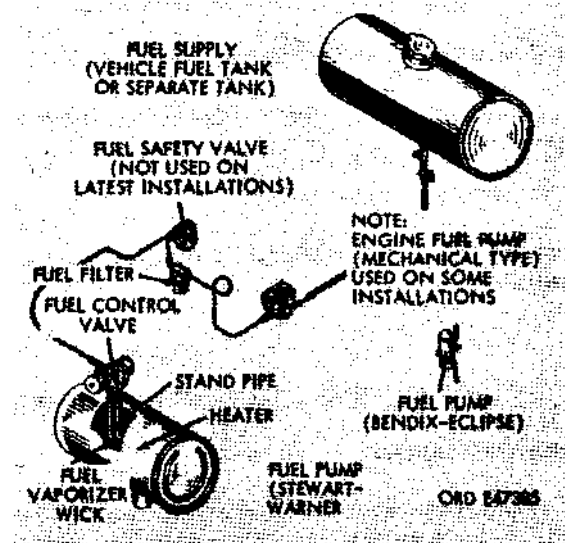

Figure 596. Schematic view of fuel system
b. The pump is located in the heater fuel supply line, between the hand operated shut-off valve and the fuel filter (fig. 596).